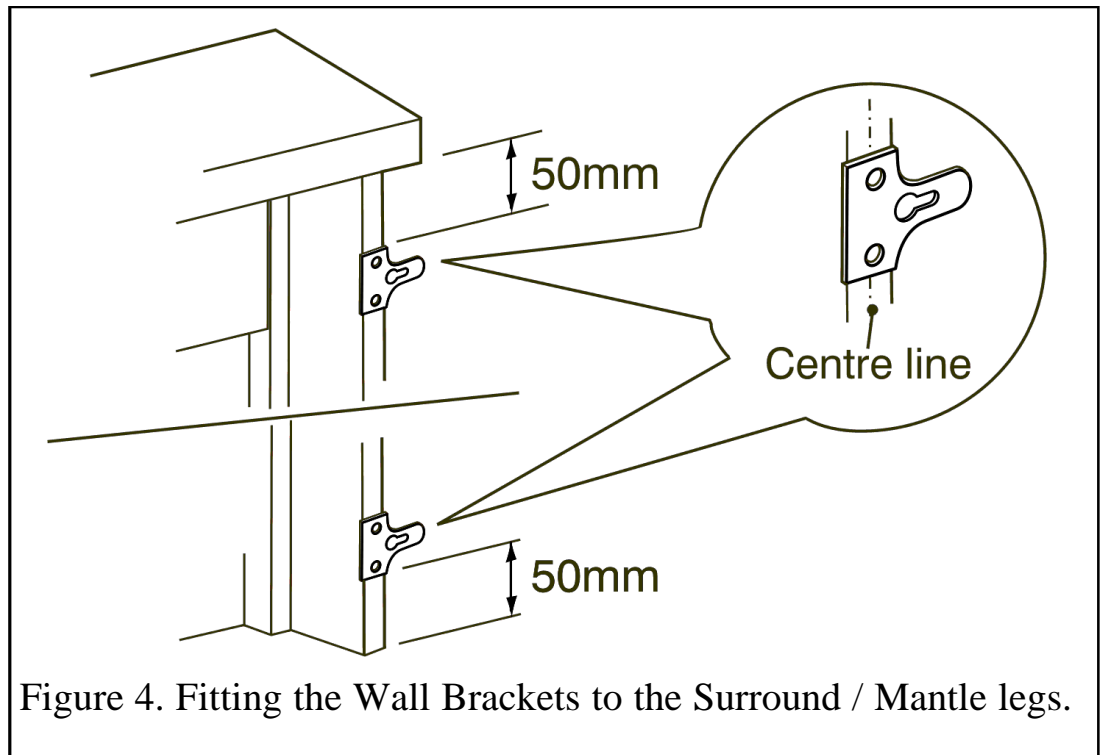

Figure 4. Fitting the Wall Brackets to the Surround / Mantle legs.
- Place the wall fixing brackets 50mm from the top and bottom outside edge of the legs as shown in figure 4. Ensure that the two fixing holes in the brackets are positioned in the centre of the outside edge of the leg. The surround may split if the fixing holes are not central. Secure in place using eight screws.